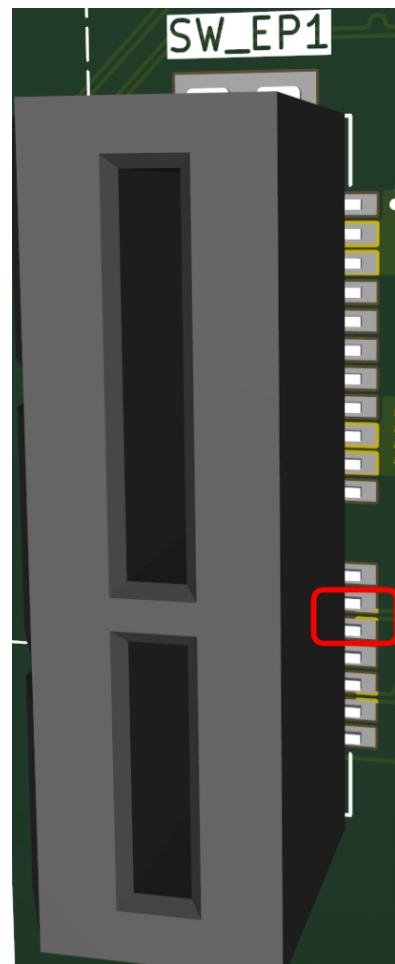

Figure 6: Measurement points on SW\_EP1
- Probe the clock pins (A13/A14) on **SW\_EP1**. **Refer to Figure 6.**